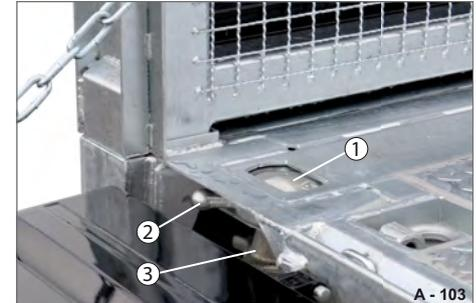

Fig. 161 Drive position without container
- ▶ Recess all the container locking points when they are not in use: Retract the pivot pin (Fig. 161/1) and the guide bushes fully. Secure the locking point with the grooved bush (Fig. 161/2) - turn anticlockwise.
- ▶ Secure the clamping nut (Fig. 161/3) with the safety locking mechanism. The safety locking mechanism blocks the clamping nut and prevents it from unscrewing of its own accord during driving.